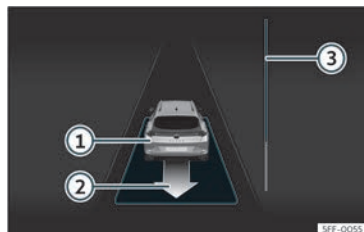

Fig. 193 On the instrument panel display: exit a parallel parking space.
- Reverse until the continuous ParkPilot signal sounds; **OR:** reverse until the instrument panel display shows the forward indication. The progress bar \ggg **Fig. 193**  indicates the distance to cover \ggg page 278.